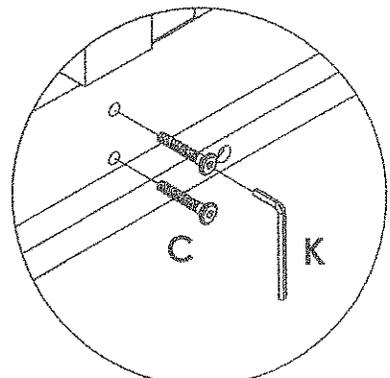

Figure 11
2. Secure **Semi Guard Rail Support** onto **Semi Guard Rail** by using **JCBC Bolts (C)**, tighten it up by using an **Allen Key (K)** as shown in **Figure 11**.